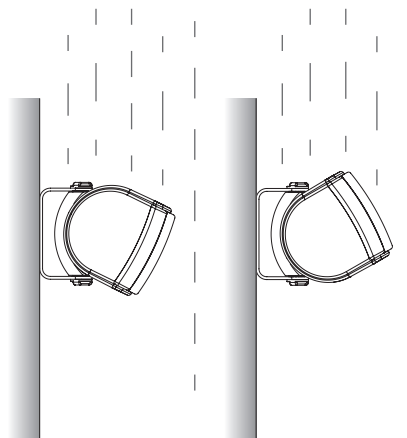

Figure 1. Qi 45EW installation orientation when exposed to rain.
- The Qi 45EV should NOT be positioned where water or rain will be driven directly into the grille (Figure 1). The speaker should always be mounted such that water will naturally drain away from the grille. For IPX4 protection in wet environments, the rubber ports plugs must be fitted.